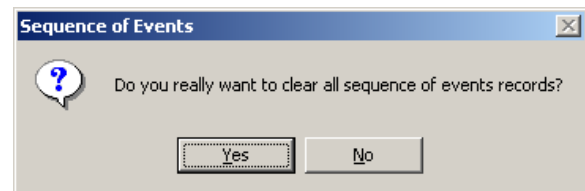

Figure 2-28 Clear Sequence of Events Record Command Confirmation Screen
1. From the IPScom Main Screen menu select **System/Sequence of Events/Clear**. IPScom will display the Clear Sequence of Events Records confirmation screen (Figure 2-28).